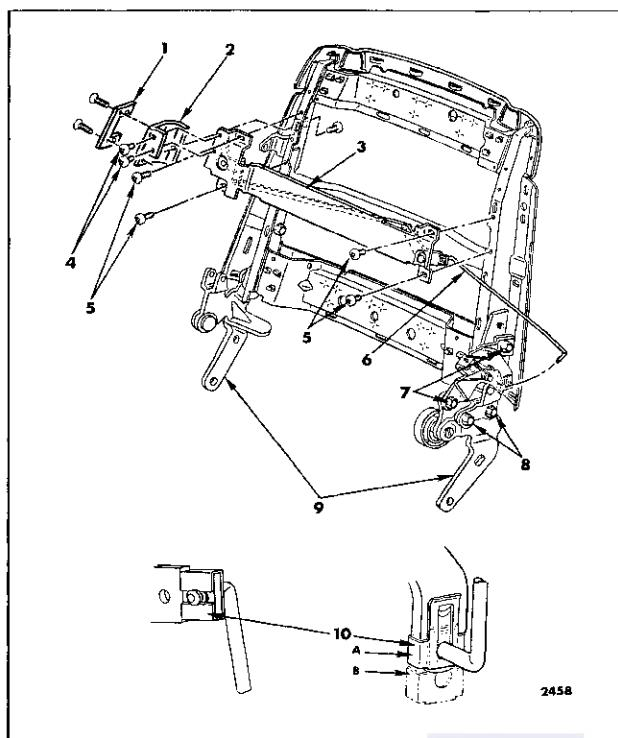

Fig. 15-42—Strato Reclining Seat Back Lock
2. At seat back inner hinge assembly remove hog rings and detach seat back trim sufficiently to gain access to seat back lock and lock striker attaching bolts (Fig. 15-42).
3. Remove seat back lock striker attaching bolts (Fig. 15-42) and remove striker.
4. Disengage clip securing lock rod to lock (Fig. 15-42) and detach rod from lock.
5. Remove lock-to-hinge attaching bolts (Fig. 15-42) and remove lock assembly from seat back hinge.
2. At right side of seat back remove hog rings and detach seat back trim sufficiently to gain access to seat back lock control support (Fig. 15-42).
3. Remove control support attaching screws (Fig. 15-42) and remove support.
3. Disengage clip securing lock rod to control assembly (Fig. 15-42) and detach rod from control assembly.
4. Remove control support and control assembly attaching screws (Fig. 15-42); then, remove control assembly from seat back.